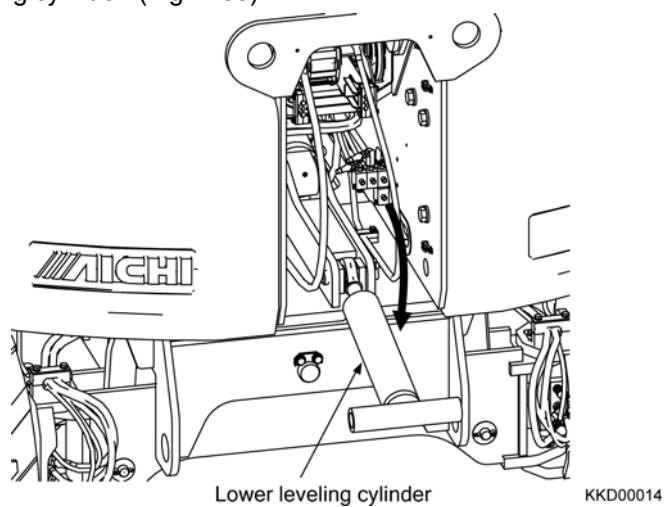

Fig. 2-39
18) Lay down the lower leveling cylinder. (Fig. 2-39)